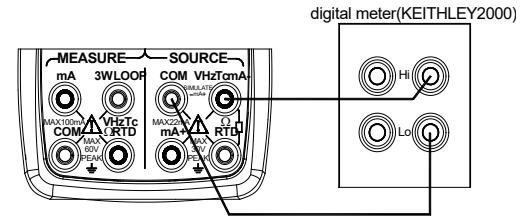

Figure 18 Adjusting voltage
Step 1: Using the function selector switch SOURCE (FUNC) , select DC voltage function. Connect the lead cables for measurement to the standard digital meter as shown in Figure 18.